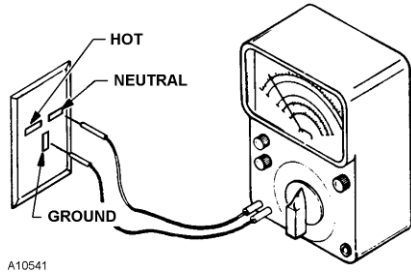

Figure 1. 230 Volt Outlet
1. **Voltage Check:** With a Volt-Meter set to check AC line voltage, insert one connector to the **HOT** terminal and the other connector to the **NEUTRAL** terminal. The voltmeter should indicate 207 to 253 Volts AC. See Figure 1.
2. **Polarity and Ground Check:** With a Volt-Meter set to check AC line voltage, insert one connector to the **HOT** terminal and the other connector to the **GROUND** terminal. The voltmeter should indicate 207 to 253 Volts AC. See Figure 1.
**NOTE:** The **GROUND** pin is the slot that is positioned perpendicular to the other two slots. In a standard three (3) prong 230 volt wall outlet the **NEUTRAL** pin is located counter-clockwise from the ground pin and the **HOT** pin is located clockwise from the ground pin. See Figure 1.